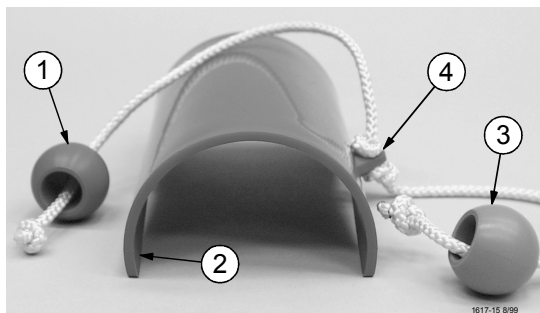

Figure 3. Assembling the Rotary Slide
2. Insert the Cord through the hole in the Rotary Slide tab, pull until centered, and knot it on both sides of the tab as shown in **Figure 3**. Slide the Indicator Balls on the Cord ends, as shown in **Figure 3**, and knot the Cord ends so the Indicator Balls will not fall off.